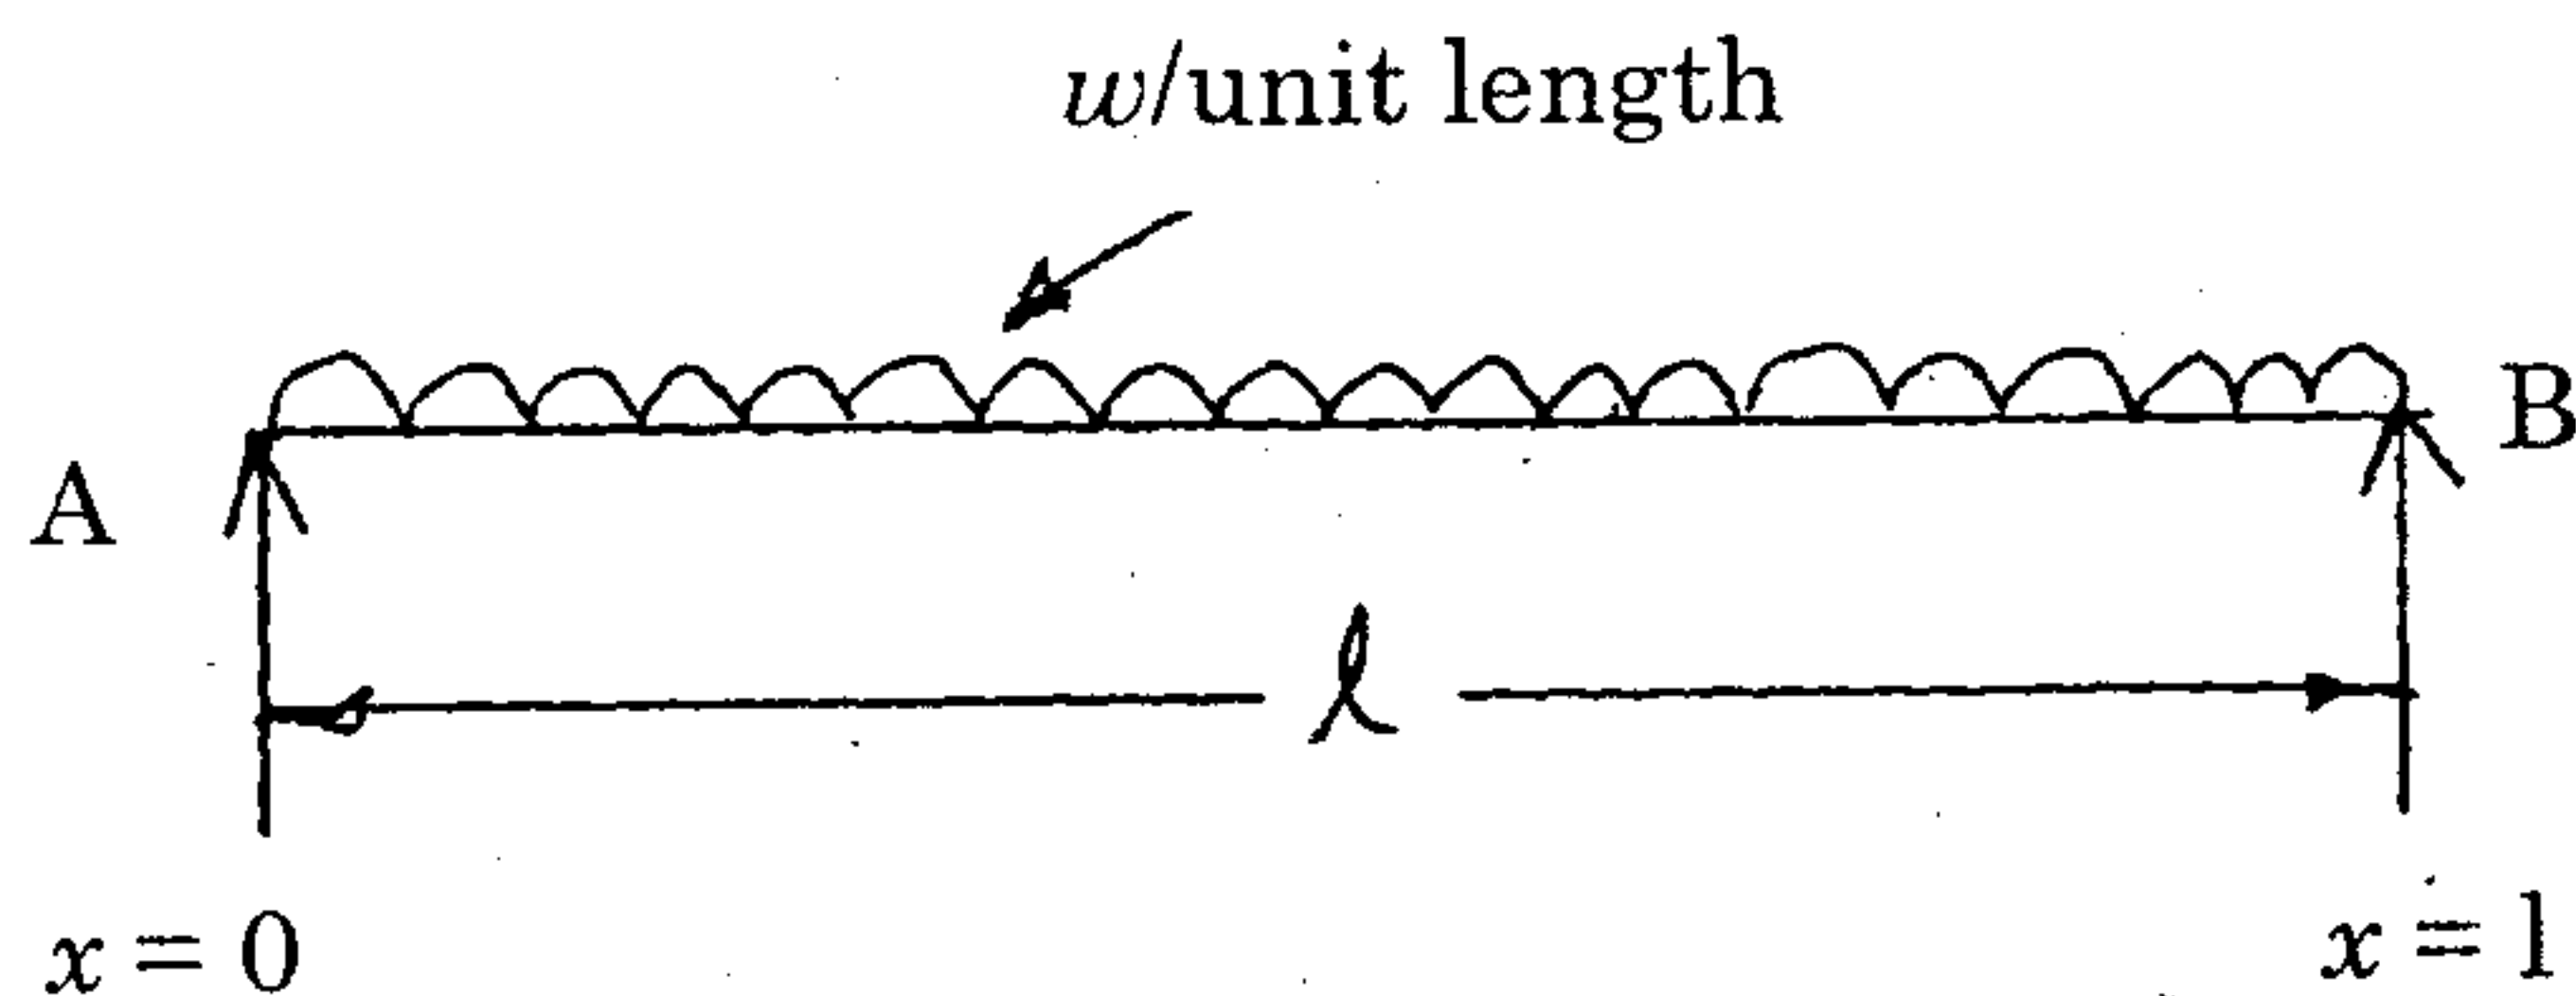

Fig Q. 11(b)
- (b) A simply supported beam is subjected to uniformly distributed load over entire span as shown in Fig. Q. 11(b). Determine the bending moment and deflection at midspan by using Rayleigh Ritz method. (16)